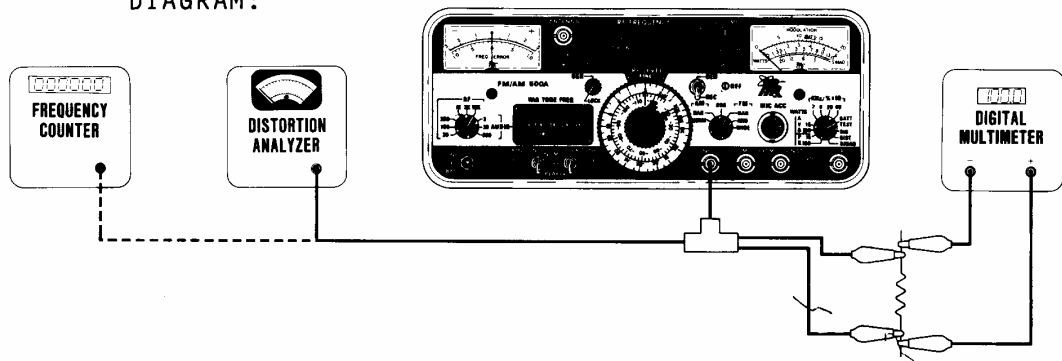

Figure 3-1 1 kHz Tone Generator Lab Test Set-Up
1. Connect FM/AM-500A to accessory test equipment as shown in Figure 3-1.
2. Set Power Switch (17) in "LINE" position. Verify LOCK Lamp illumination is steady.
4. Rotate 1 kHz TONE Level Control (16) ccw until DMM indicates 2.50 VRMS.